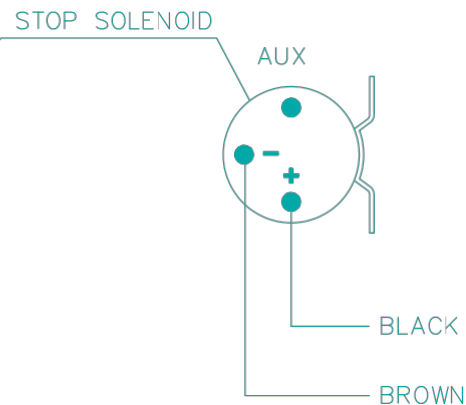

FIG. 14
- If the stop solenoid still does not work, try to interconnect the + terminal and the aux. terminal by means of a piece of wire. See fig. 14. When doing so, the pull coil is always energized as long as the stop button is pressed. If the stop button is pressed for more than 4 seconds, the fuse may blow, but usually 4 seconds should be adequate to stop the engine.